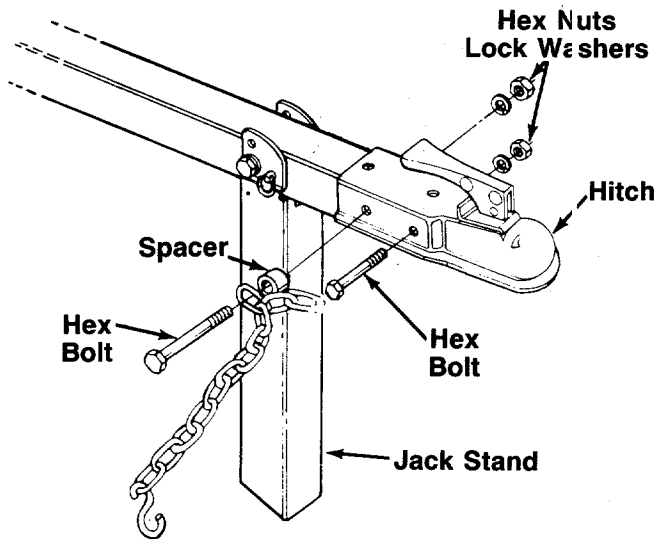

FIGURE 4.
- ← Secure with hardware just removed. See figure 4.